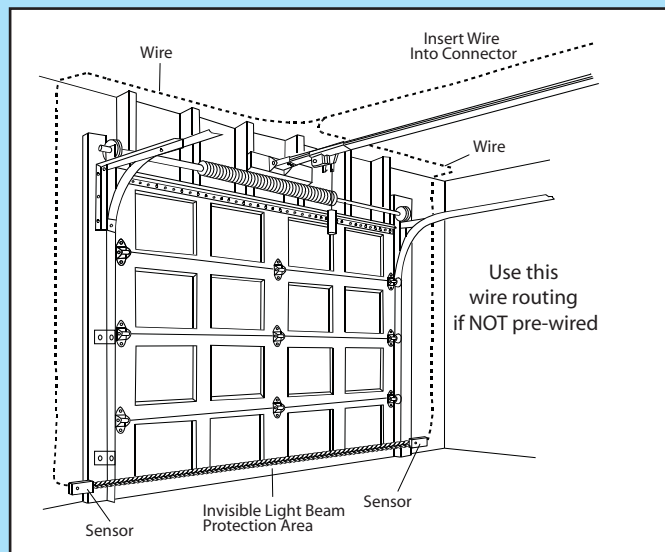

FIG. 4-6 Wire routing.
- Securely fasten wires to wall and ceiling as you go (Fig. 4-6 on next page).